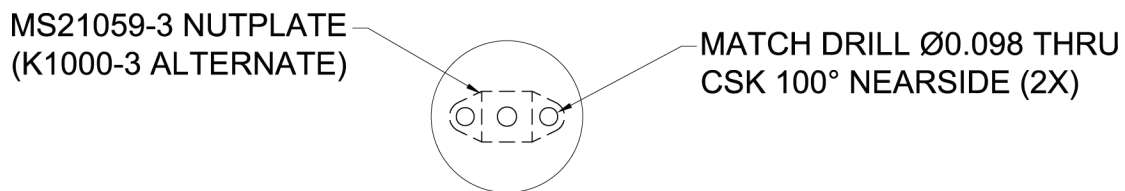

Figure C-15 Aligned Nutplate And Disk
10. Align one stainless steel nutplate MS21048-3 (or K1001-3) to each disk using the center hole as a guide. Match drill 0.098 holes to nutplate and countersink 100° on one side. Refer to Figure C-15.